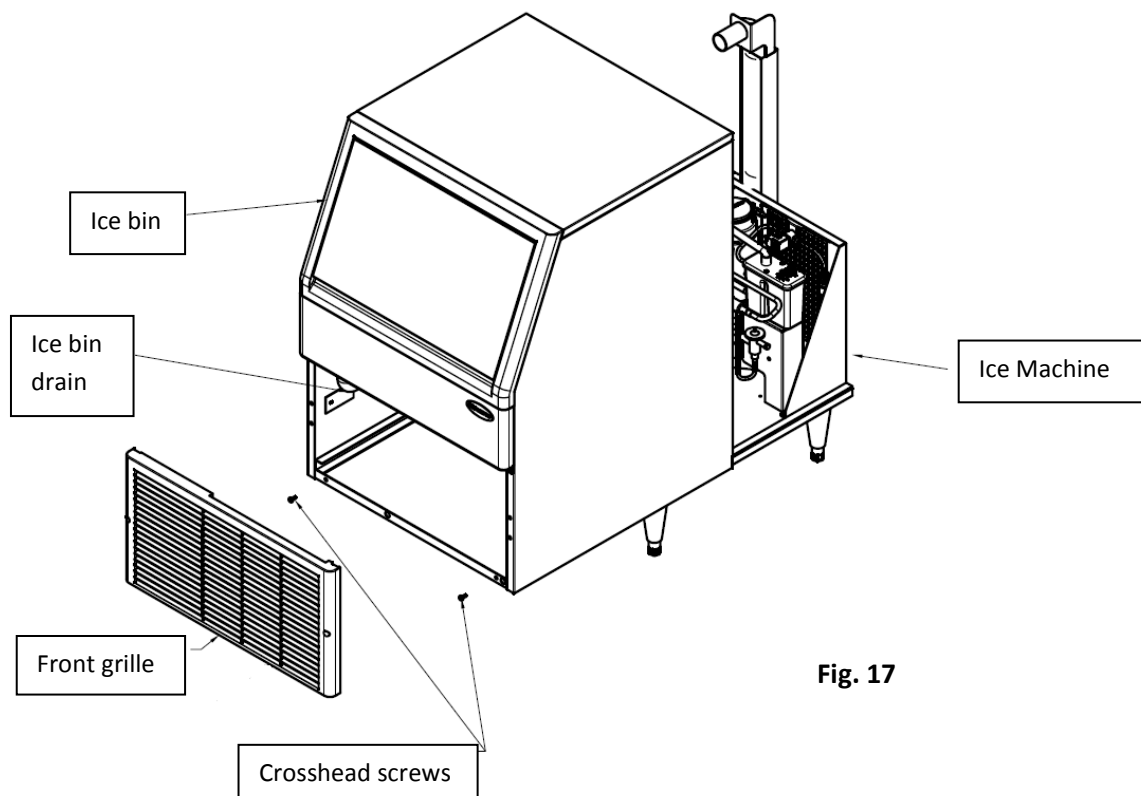

Fig. 17
2. Remove the front grill (Fig. 17)